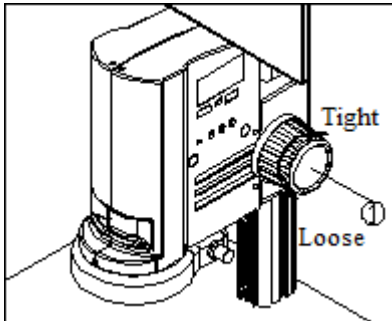

Fig. 4
- 1) To adjust the focusing tension, grip and hold the left knob and rotate the right knob ①. Focusing tension will tighten when rotated in the clockwise direction, and loosen in counter-clockwise. (See Fig. 4)